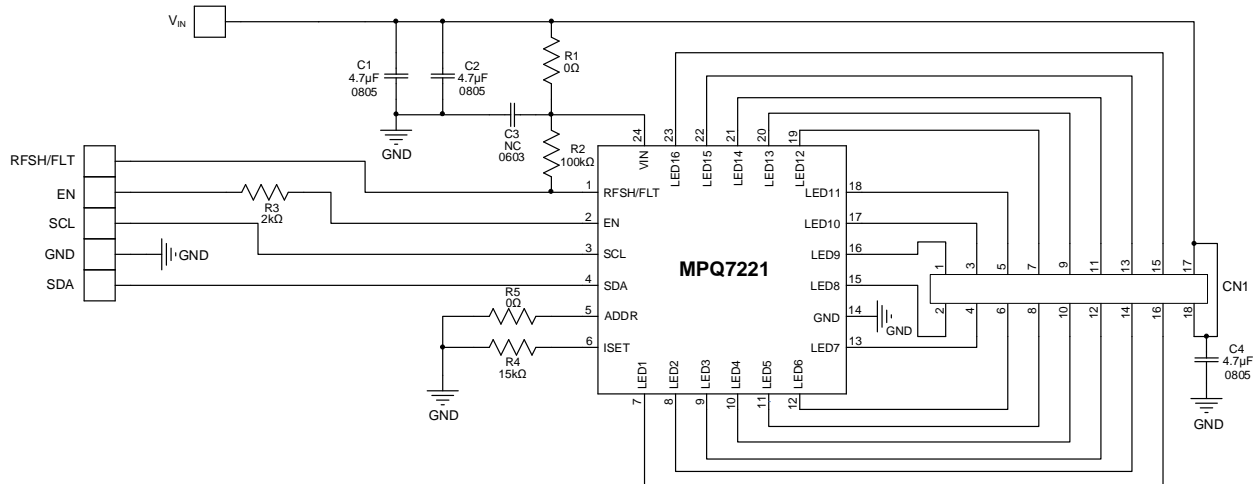

Figure 9: Typical Application Circuit ($I_{LED} = 80mA/Channel$)
- 9) The recommended layout is based on Figure 9 on page 35.